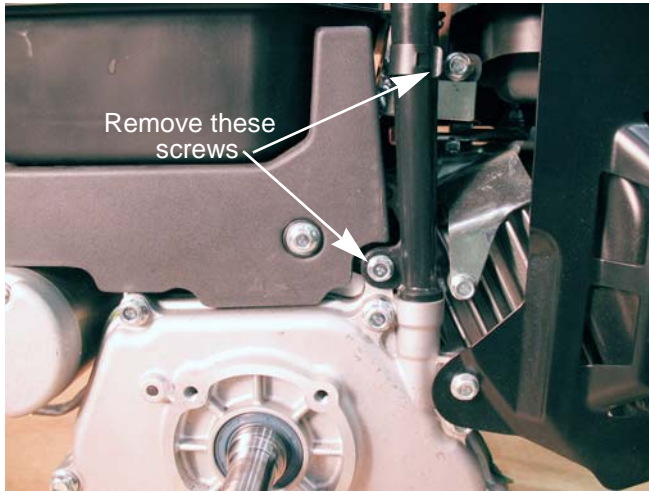

Figure 5.3
1. Remove the upper screw that secures the dip stick tube to the fuel tank support bracket using a 10 mm wrench. See Figure 5.3.
2. Remove the screw at the bottom of the dip stick tube using a 10 mm wrench. See Figure 5.3.